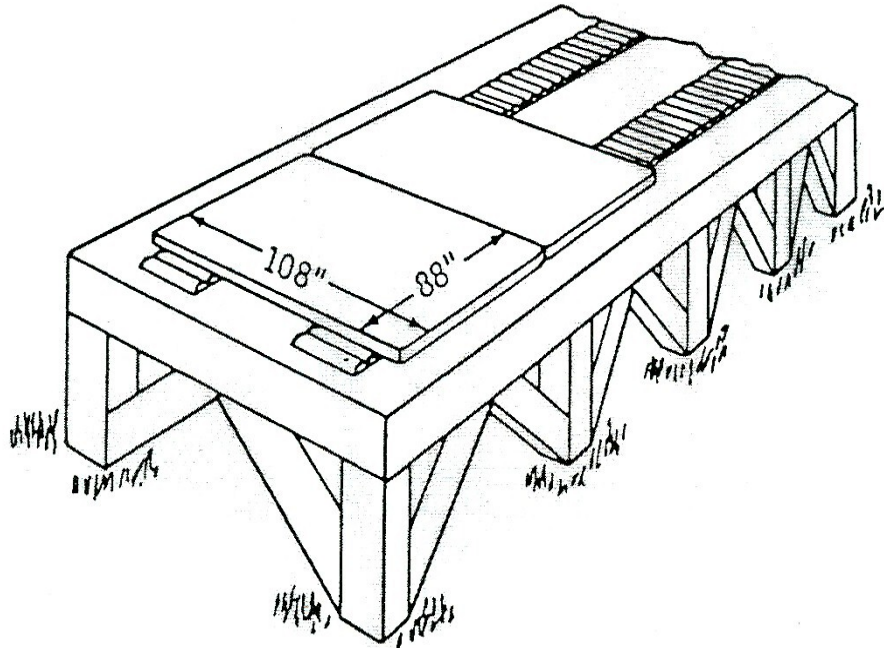

Figure 3-4
- b. Align the indents and detents on the 108-inch side of each pallet (see Figure 3-4).